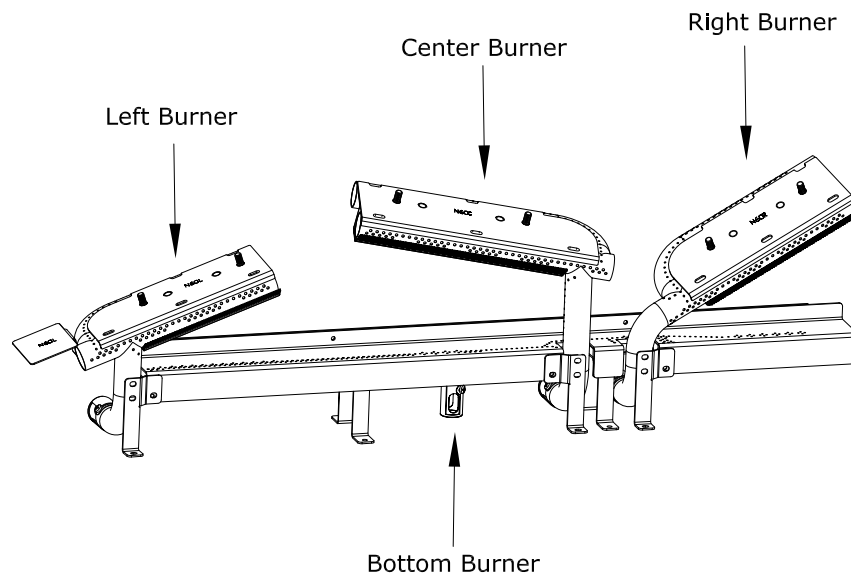

Figure 2.1 - Burner Identification
- Figure 2.1 identifies how the burners are referenced throughout this manual for burner orifice size, venturi settings, or other burner information.